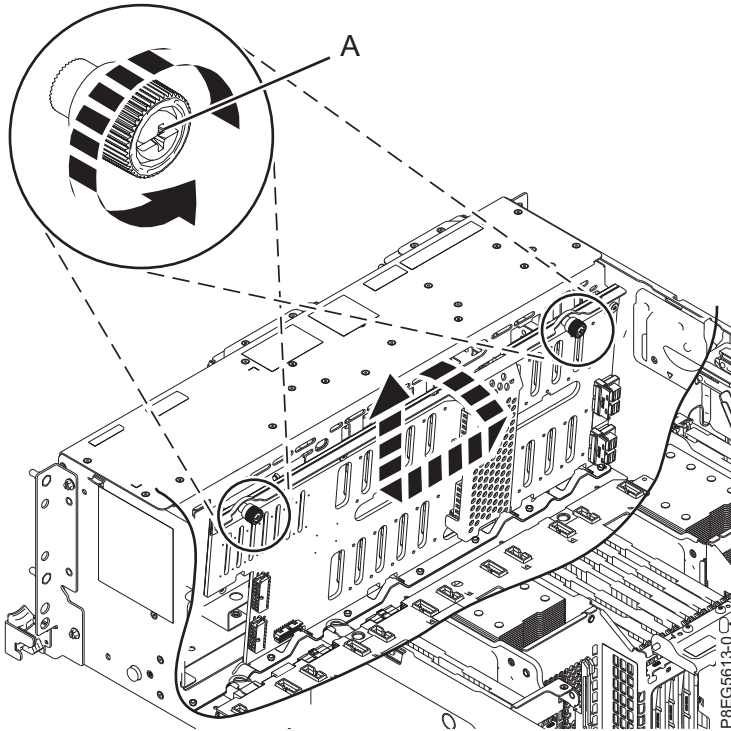

Figure 16. Removing the disk drive backplane
7. Carefully unscrew the disk drive backplane's captive thumbscrews (A) until fully loose as shown in Figure 16.
8. Tilt the disk drive backplane in the direction that is shown in Figure 16, then slide it to the side so that the backplane cutouts clear the tabs in the chassis.